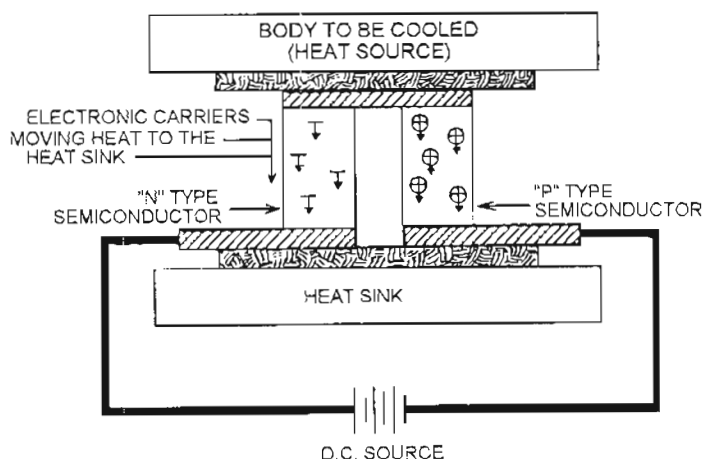

Figure 3-2. Thermoelectric cooling/heating couple.
b. The thermoelectric cooling couples (fig 3-2) are made of two elements of semiconductor material, primarily bismuth telluride, heavily doped to create an excess (N type) or deficiency (P type) of electrons. Heat absorbed at the cold junction, is pumped to the hot junction at a rate proportional to carrier current passing through the circuit, and the number of couples. Couples are connected in series electrically and in parallel thermally to form a thermoelectric module. The direction of the current flow dictates the heating mode of the load compartment under low temperature environmental conditions.